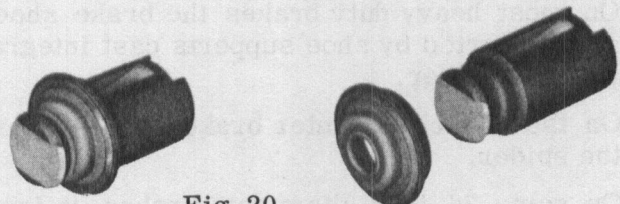

Fig. 20
3. Carefully push the double lip seal onto the plunger, stretching the outer seal lip over the plunger nose end until the inner seal lip is completely in the second plunger groove (Fig. 20). Remove masking tape.